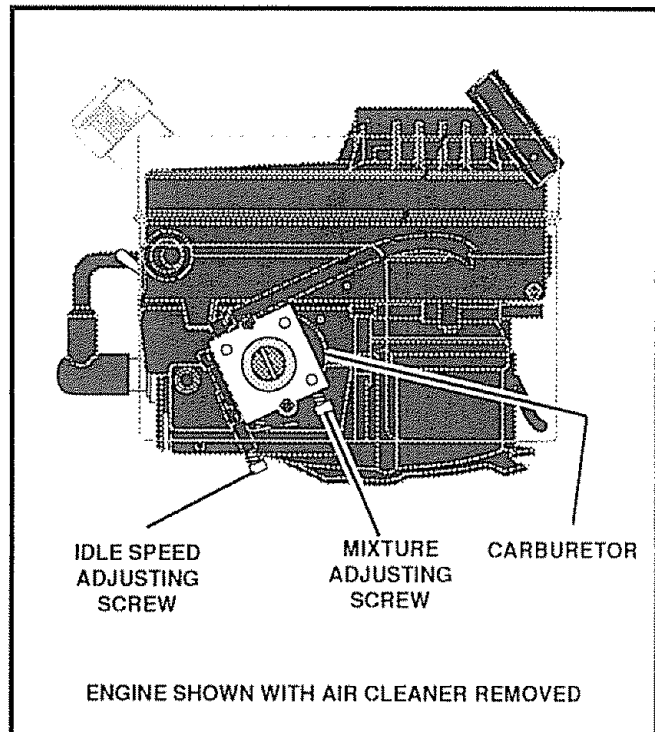

FIG. 14
- Turn the mixture adjustment screw (see Fig. 14) clockwise to close.
- Turn the mixture screw counterclockwise (open) one (1) turn.
- a. Turn the mixture adjusting screw (see Fig. 14) slowly clockwise until the engine falters. Note this location.